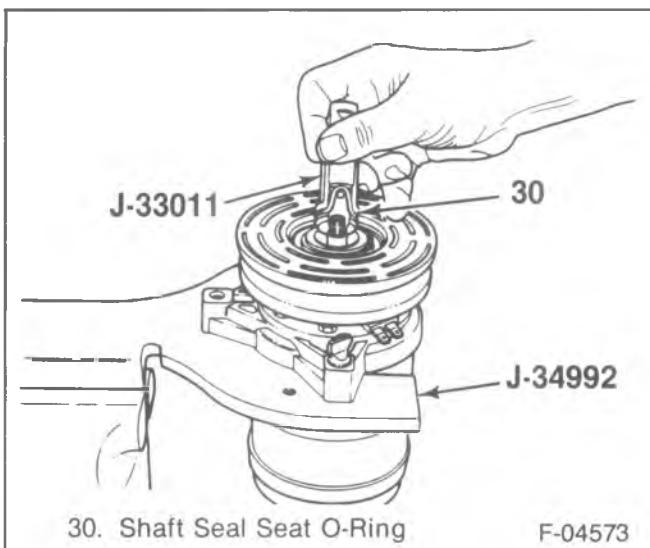

Figure 25—Installing the Shaft Seal Seat O-Ring
- 1. J-34614 onto the shaft (38).
- 2. O-ring seal using J-33011 (figure 25).